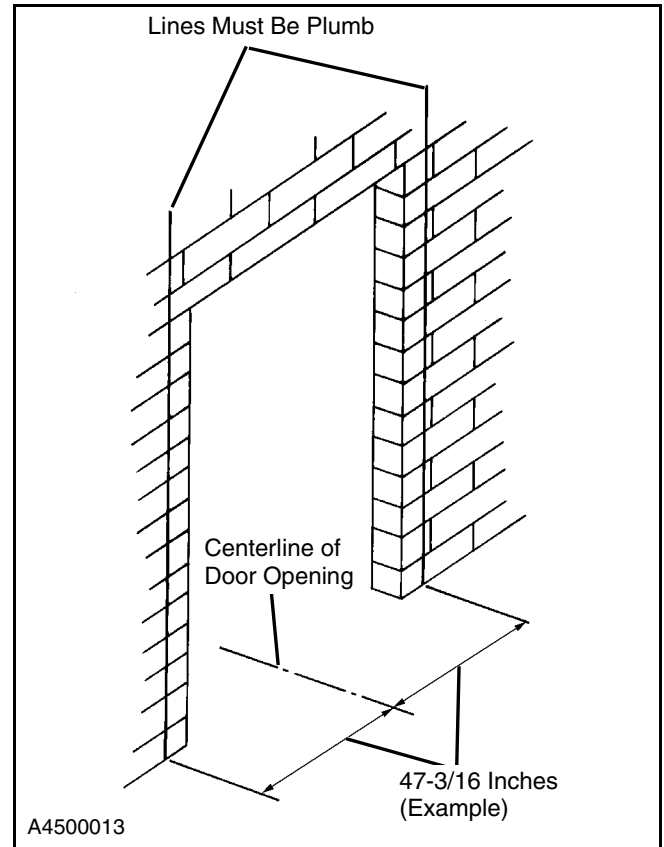

Figure 8
3. Measure out to each side of the door opening centerline 1/2 of the overall length of the head assembly minus 2-13/16 inches. Mark the floor and wall on each side of the door opening at that dimension. (See Figure 8.)